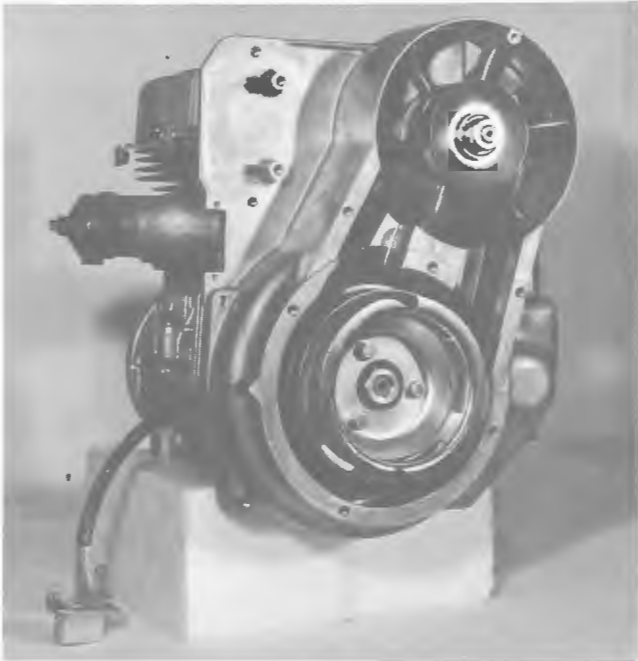

FIGURE 5-10
5.2.7 Starter Cup and Fan Belt Pulley (See Figure 5-10)